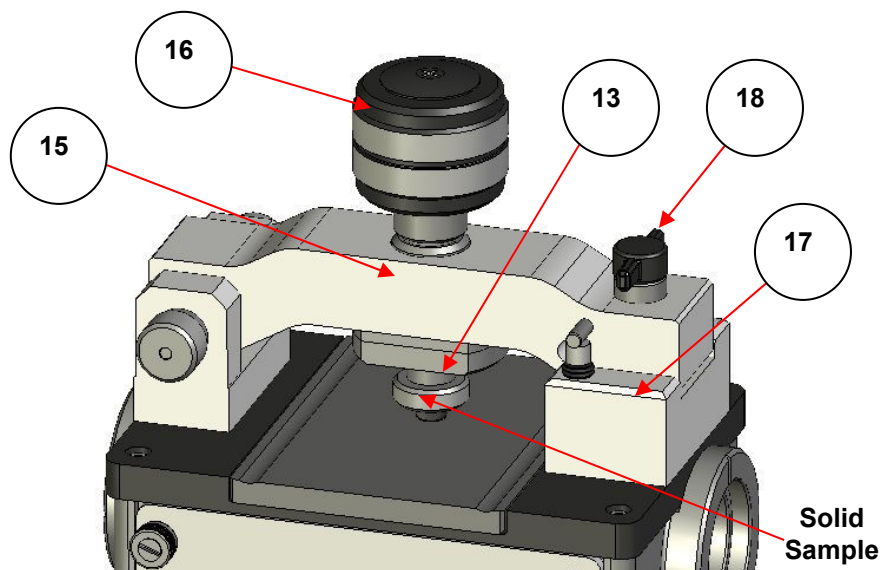

Figure 14. Silver Gate™ ATR Accessory with bridge (15) closed and a powder sample between the anvil (13) and ATR crystal
When analyzing for a powder sample it is best to use a flat ATR crystal top plate assembly on a Silver Gate™ ATR accessory fitted with a bridge and clamp anvil assembly (15). The best anvil (13) to choose would be the stainless steel anvil P/N GS10567. (See Figure 14.)
2. Open the bridge (15) and position it past the stay up catch device (19). This allows for easier access to the ATR crystal surface area to position the sample correctly.
When analyzing for a flat solid sample it is best to use a flat ATR crystal top plate assembly on a Silver Gate™ ATR accessory fitted with a bridge and clamp anvil assembly (15). The best anvil (13) to choose would be the stainless steel anvil P/N GS10567. (See Figure 14.)
4. Close the bridge (15) and lock it to its support block (17) via the quick lock/release screw (18).
5. Begin turning the torque knob assembly (16) clockwise to lower the stainless steel anvil (13) towards the sample surface. Continue
When analyzing for a pellet/bead or irregular shaped sample it is best to use a flat ATR crystal top plate assembly on a Silver Gate™ ATR accessory fitted with a bridge and clamp anvil assembly (15). The best anvil (13) to choose would be the concave recessed pellet anvil P/N GS10532. (See Figure 14.)
5. Begin turning the torque knob assembly (16) clockwise to lower the pellet anvil (13) towards the sample surface. As the concave, recessed surface of the pellet anvil begins to touch the pellet/bead sample it will help to keep the sample centralised over the ATR crystal.
When analyzing for a fiber sample it is best to use a flat ATR crystal top plate assembly on a Silver Gate™ ATR accessory fitted with a bridge and clamp anvil assembly (15). The best anvil (13) to choose would be the stainless steel anvil P/N GS10567. (See Figure 14.)